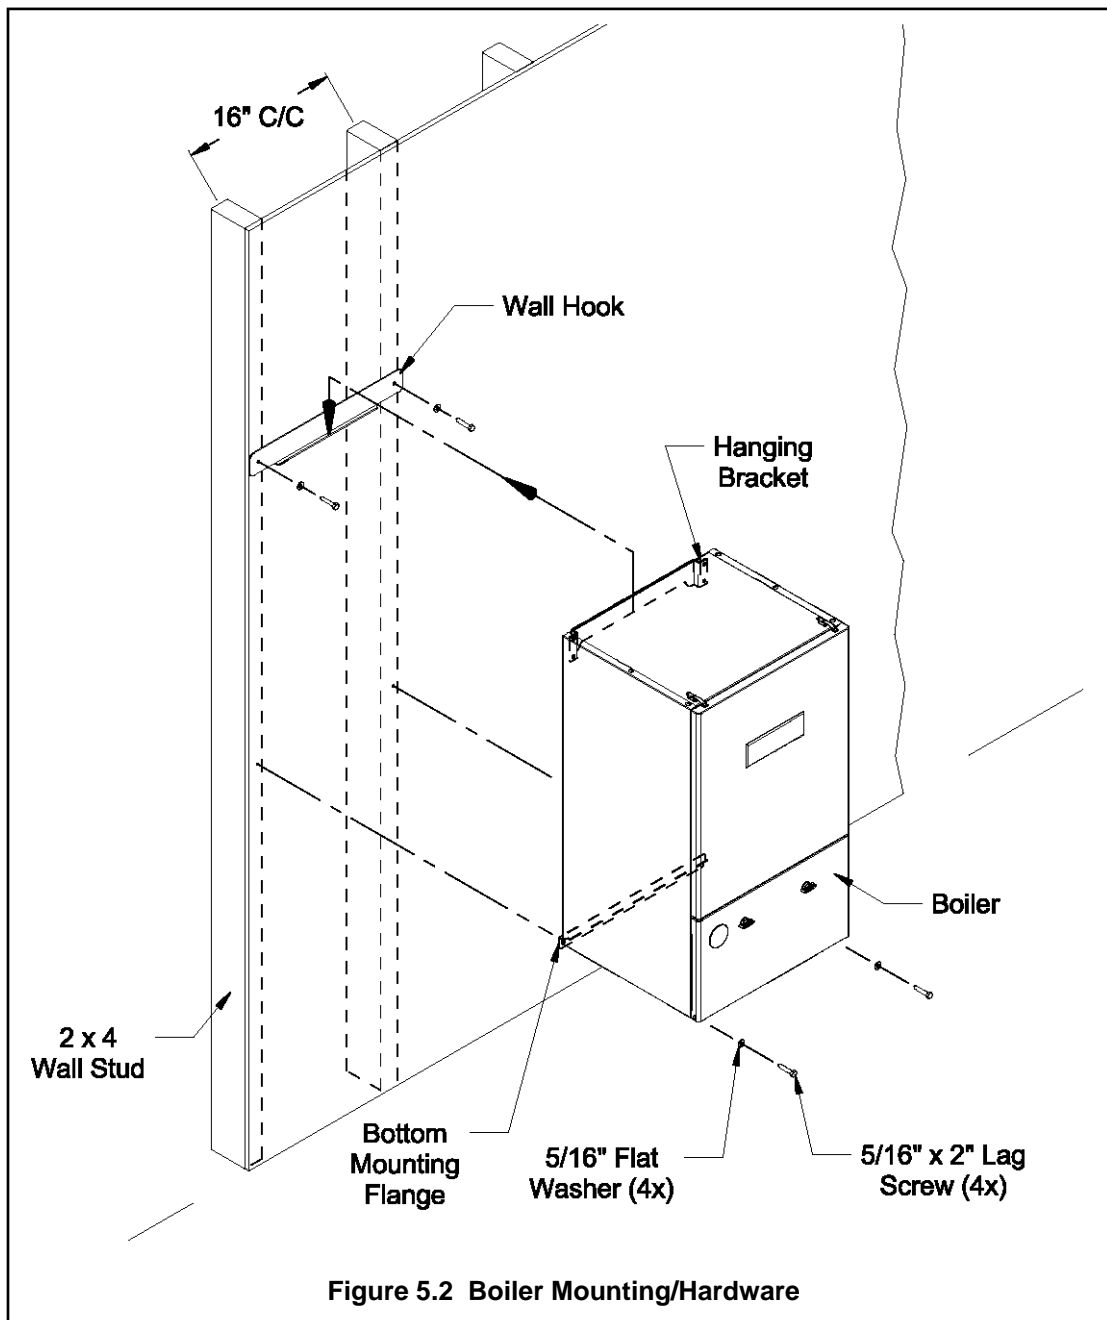

Figure 5.2 Boiler Mounting/Hardware
- 7) Attached the wall hanging hook using the 5/16" x 2" lag screws and washers, or other suitable anchors as appropriate (Figure 5.2). Make sure the hook is level.
- 8) Hang the boiler on the wall hook as shown in Figure 5.2.
- 9) If not already done in Step (4) locate and drill holes "C" and "D" using the ob-round slots in the bottom mounting flange. Secure the bottom flange to the wall using the 5/16" x 2" lag screws, or other fasteners as appropriate (Figure 5.2).